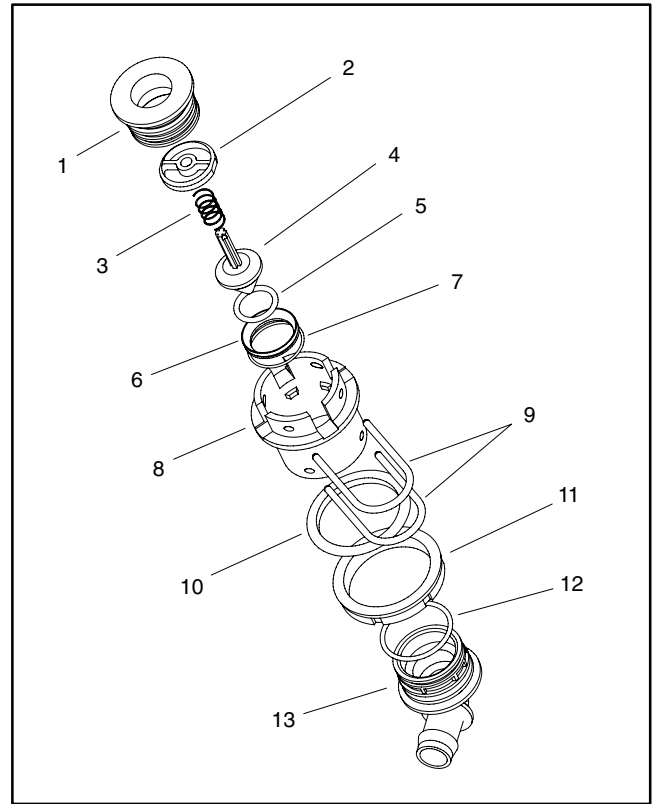

Figure 35
6. Disassemble drain assembly using Figure 35 as a guide.